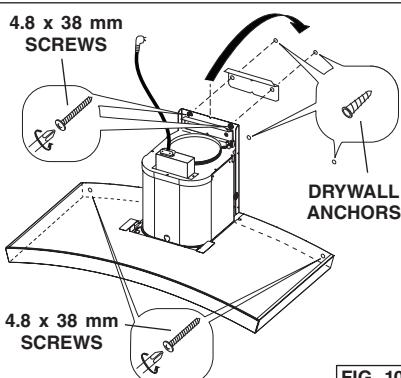

FIG. 10
2. Install hood onto the wall mounting bracket. Make sure hood is level with floor. Fig. 10.
3. Mark and install (4) additional drywall anchors and screws as shown.
4. Secure hood to wall with (4) 4.8 x 38 mm mounting screws.